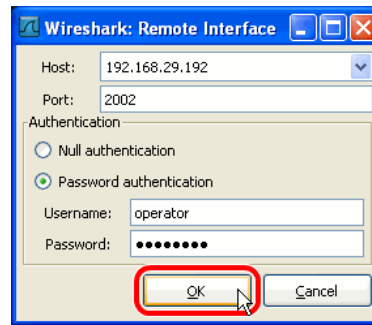

Figure 164: Wireshark Remote Interface Dialog.
4. Enter the correct settings for **Host** and **Port** (default 2002) and, if authentication is enabled, enter **Username** and **Password** in the corresponding fields as shown in Figure 164.